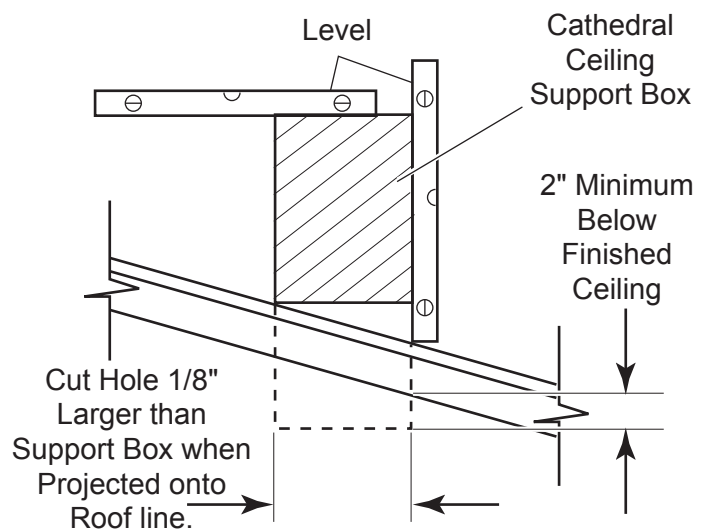

Figure 33 - Cathedral Ceiling Support Box Installation
2. Cut the hole 1/8" larger than the support box outline. *Figure 33.*
3. Lower the support box through the hole in the roof until the bottom of the box extends at least 2" (mm) below the ceiling. *See Figure 33.* Align the support box vertically and horizontally using a level. Temporarily tack the support box in place through the inside walls and into the roof sheathing.